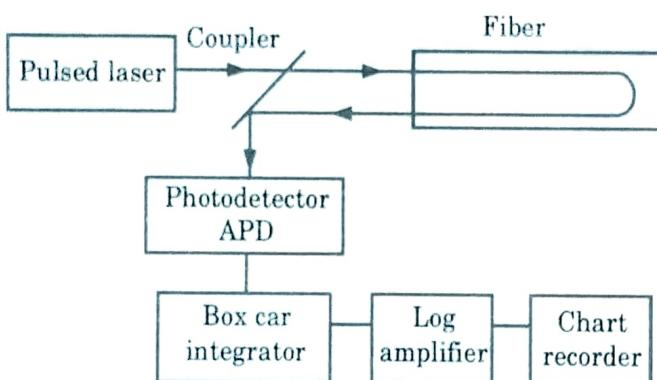

Fig. 5.12.1.
4. A block schematic of the backscatter measurement method is shown in Fig. 5.12.1.